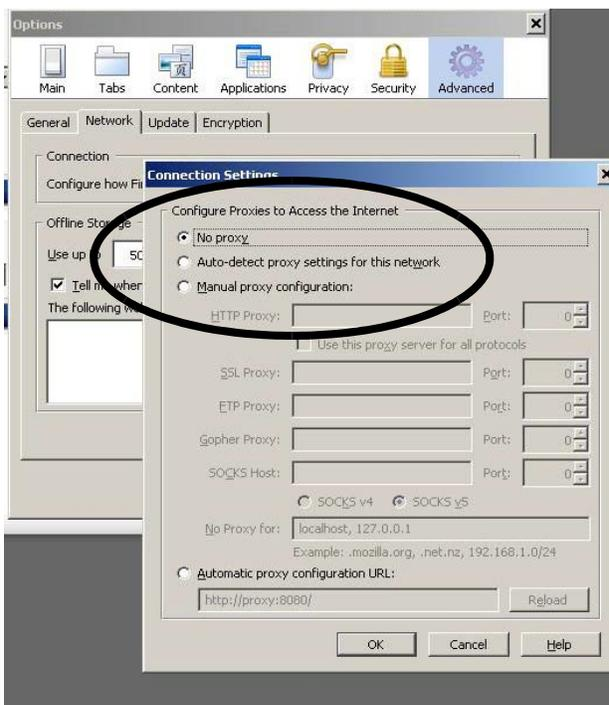

FIG. 38. Turn Off Proxy Setting (Firefox only)
2. *Applies to Firefox only:* To operate in a ProMix 2KS/3KS network with Firefox, you must turn off the Proxy setting on your browser. In your Firefox browser, go to Tools>Options>Advanced>Network tab>Connection Settings. Click “No proxy.” See FIG. 38.